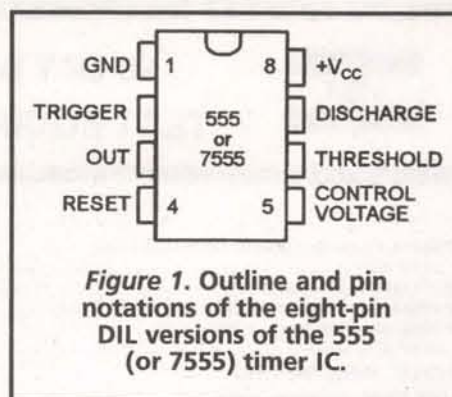

Figure 1. Outline and pin notations of the eight-pin DIL versions of the 555 (or 7555) timer IC.
that generates stable timing periods from a few microseconds to hundreds of seconds via a simple C-R network, and gives good output waveforms with typical rise and fall times of 100ns. When used in the monostable mode, its output can be pulse-width modulated (PWM) and, in the astable mode, it can be subjected to frequency-sweep control, to frequency modulation (FM), or to pulse-position modulation (PPM). Figures 1 to 3 give basic outline and performance details of the bipolar 555 and 556 ICs and their CMOS counterparts, the 7555 and 7556.